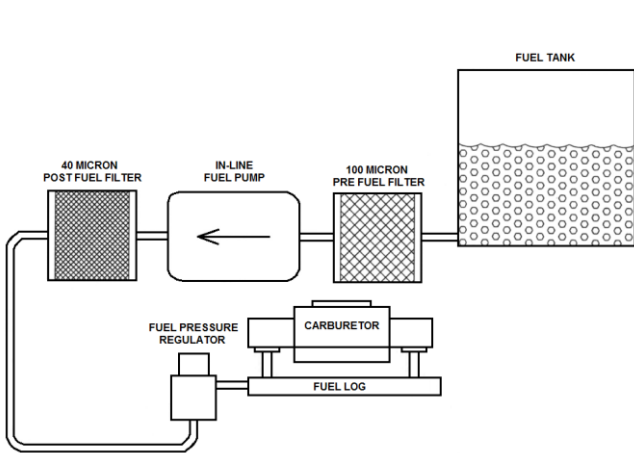

Figure 1
2. The standard regulator, provided with the 80000101 pump, has two discharge (out) ports (see Figure 1). In dual carburetor installations, one port can feed each carburetor. With single carbs, plug one port and feed the carburetor from the other. Either may be used. Installations should determine choice.
4. Connect the other line per Figures 1,2, or 3.